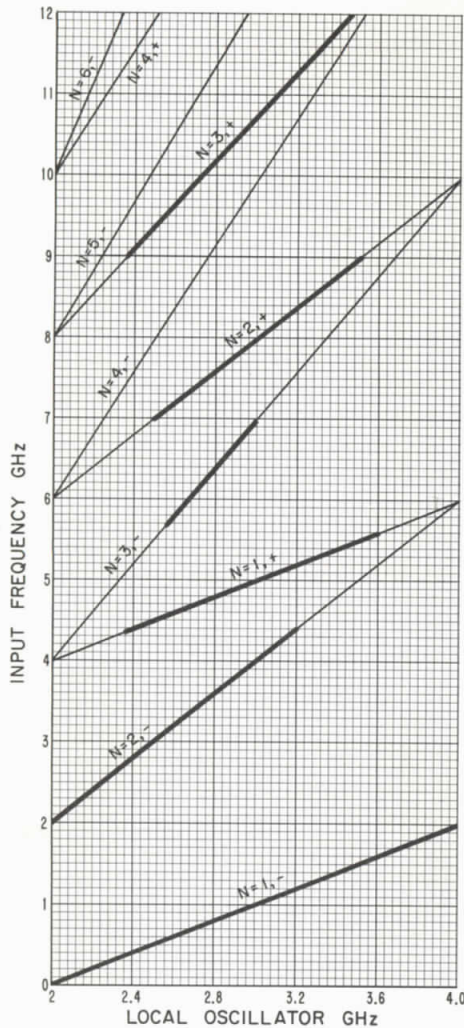

Figure 5. HP 851B/8551B Tuning Curves
Given a reference frequency,  $F_r$ , one can determine the proper local oscillator harmonic number and sign from Equation (3), or from the spectrum analyzer dial, or from Figure 5. These values, used in Equation (5) to solve for  $F_c$ , give the comb tooth frequency to use with fundamental mixing to set up the reference frequency. Example 2 illustrates the procedure. A pre-selector (HP 8441A) can be used to eliminate multiple responses after the center frequency has been set up.
For an example, we will set up a reference frequency at 7.5 GHz. From Figure 5 we see that the 2+ mixing mode is required. Substituting in Equation (5),